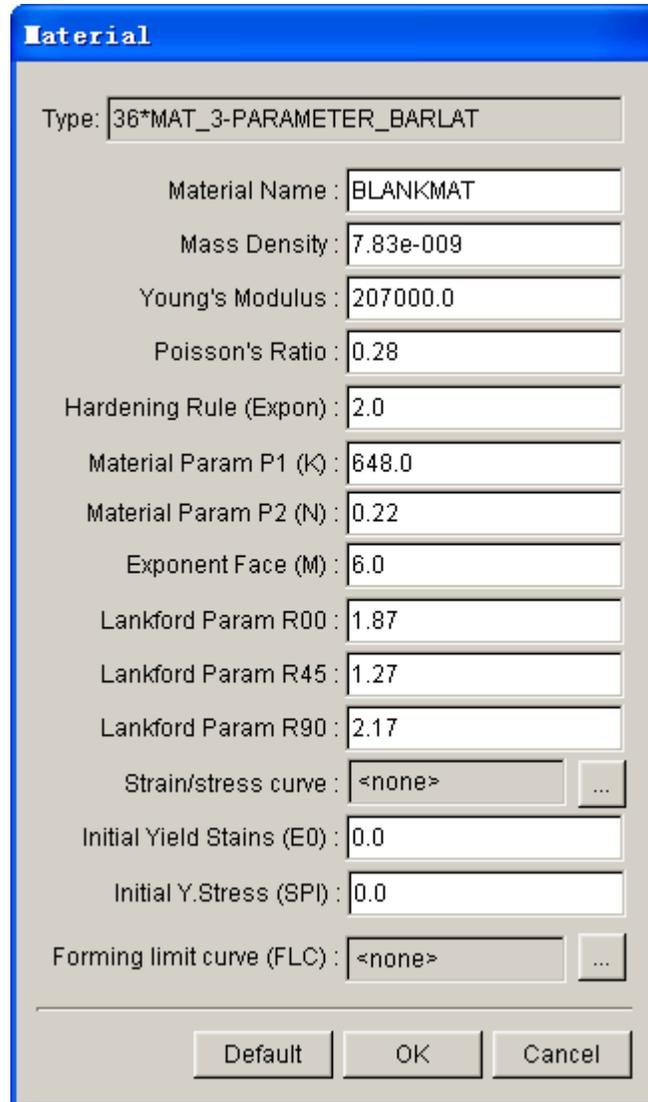

Figure 8.2.23 Material Edit dialog box
**EDIT...:** Allow the user to edit the material parameters listed in the MATERIAL dialog box illustrated in Figure 8.2.23.